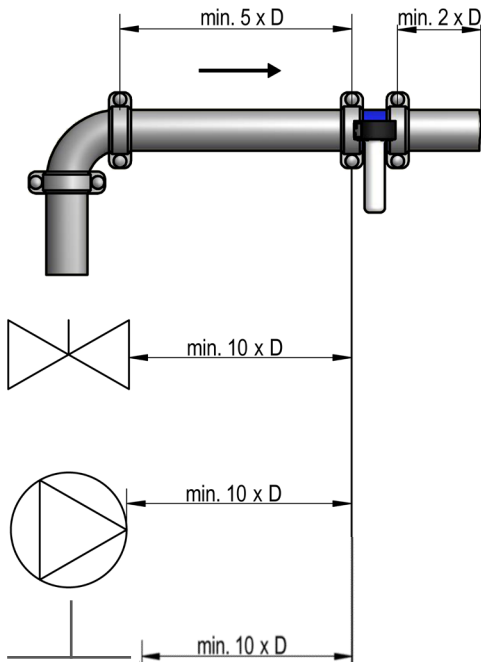

Fig. 3 Inlet path and outflow zone
When using valves, fittings, ... before the orifice plate, an inlet path of min. $10 \times D$ is always required. The outflow zone has to be min. $2 \times D$ (fig. 3).
- » An inlet path of min. $10 \times D$ is required if a valve, fitting or T-piece pipe is mounted before, where at least $5 \times D$ must be available as a straight inlet section directly in front of the orifice plate (fig. 3).